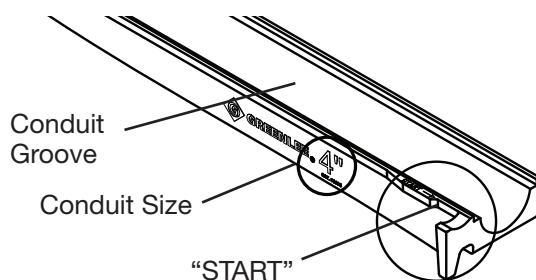

Figure 10
12. With the ears turned toward the ram, insert the "START" end of the follow bar from the right of the connecting forks over the roller. (Fig. 10)